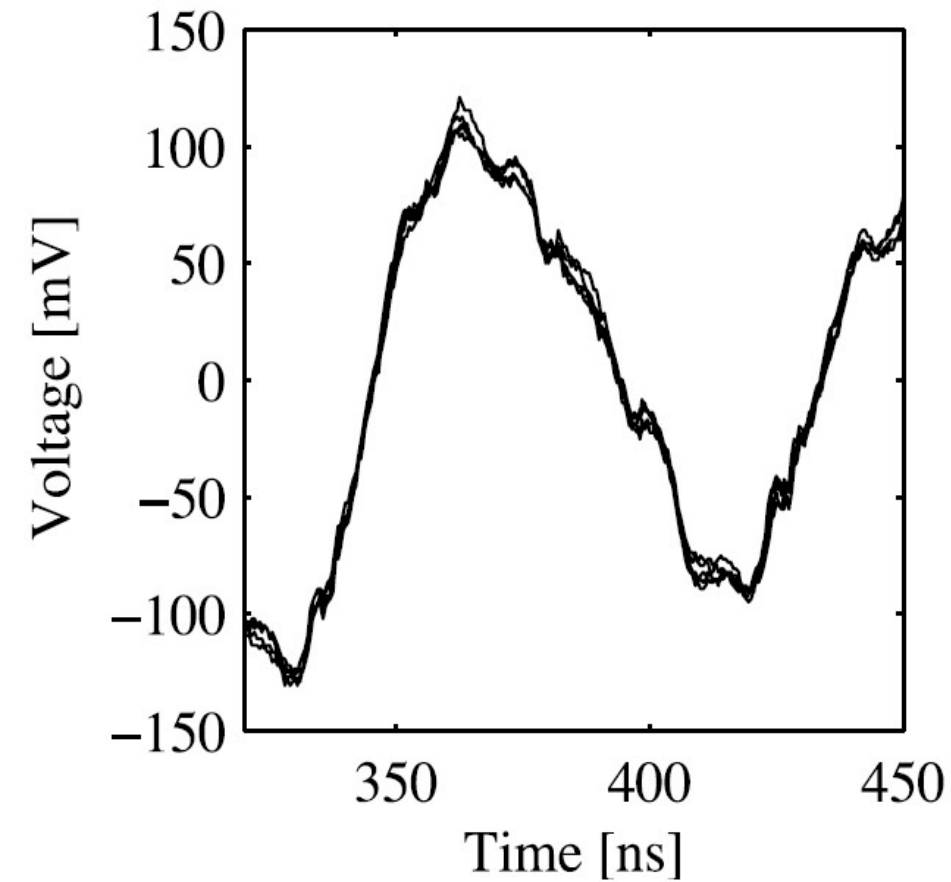

Figure 4.1. Power traces look very similar if the same data is processed.
Figures 4.1 and 4.2 from Mangard et al.
- Fig. 4.1 shows five power traces with the same data and instruction (a load of a byte of data with value zero from on-chip memory to a register)